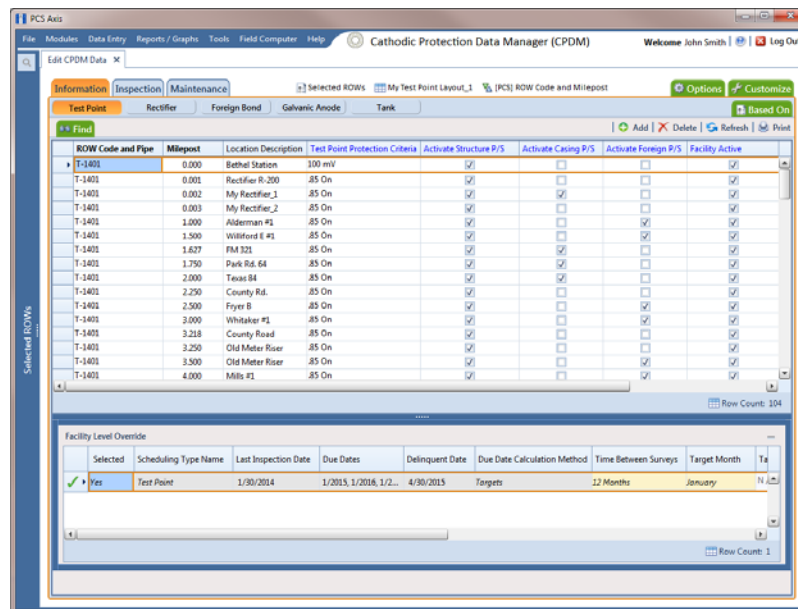

Figure 7-5. Information Grid
- 3 Open the *Edit <module> Data* window. For example, click **Data Entry > Edit CPDM Data** to open the *Edit CPDM Data* window (Figure 7-5, page 193).